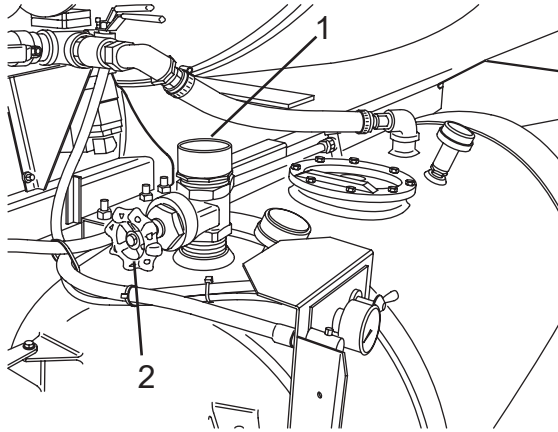

Figure 93
2. Open the chemical tank gate valve (Figure 93, Item 2) and fill the chemical through the inlet (Figure 93, Item 1).
3. Connect a water supply hose to the inlet (Figure 93, Item 1) and fill tank.